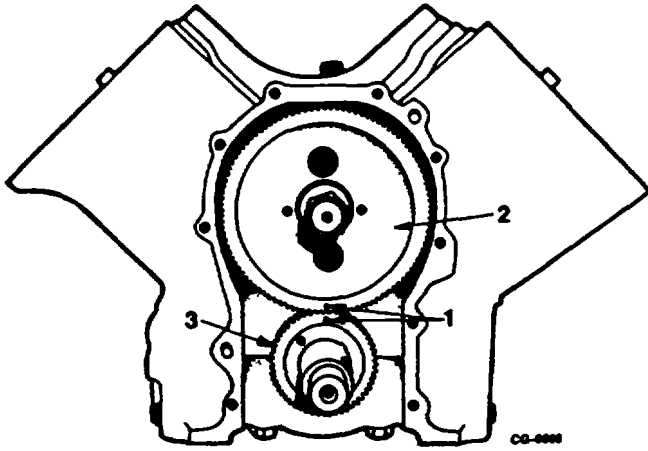

Figure 133. Aligning Timing Marks on Camshaft and Crankshaft Gears
- a. Install camshaft thrust flange bolts (Figure 133) and tighten to specified torque. (See TORQUE CHART).